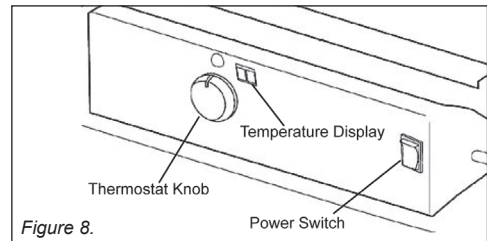

Figure 8.
5. Move power switch to “On” position. The power indicator light and room temperature display will illuminate and heater will ignite. (See Figure 8)